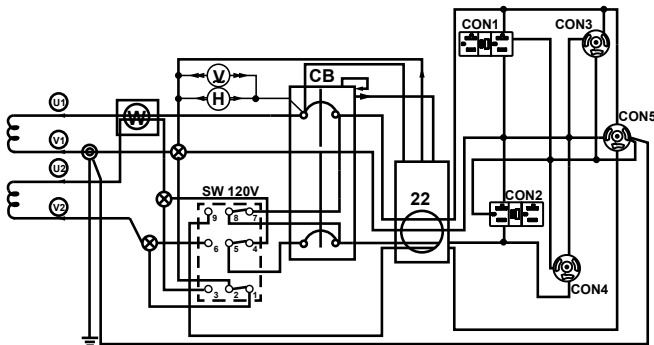
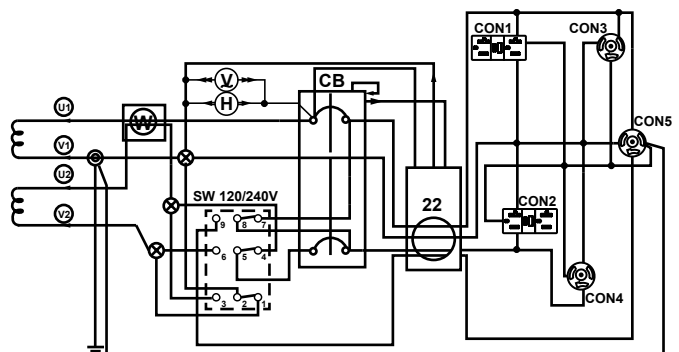

Figure 6. 120V Full Power Switch Simplified Diagram (Up Position)
Figure 7. 240/120V Full Power Switch Simplified Diagram (Down Position)
16. **Full Power Switch** – The generator is provided with a full power switch. Figure 6 and Figure 7 show simplified wiring diagrams of the dual voltage system.